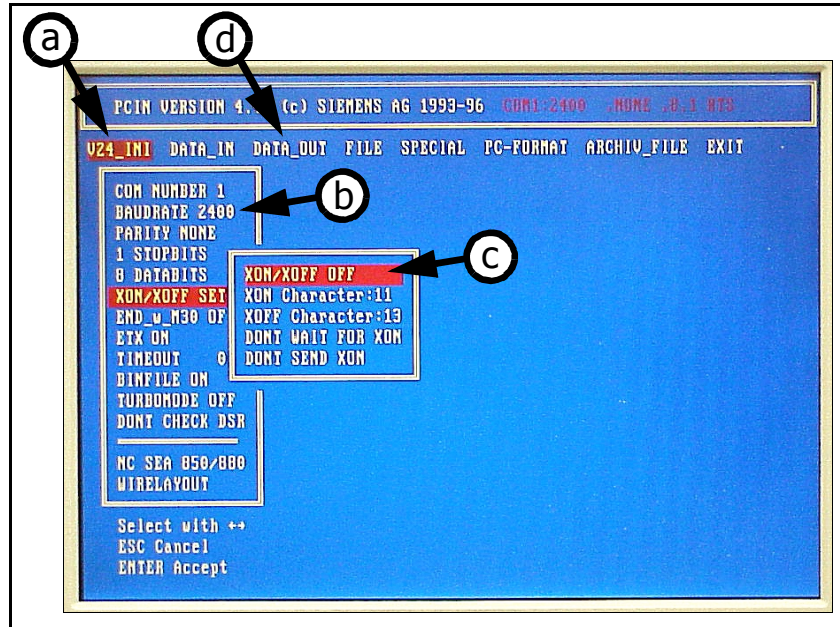

Figure 3 PCIN screen display with the communication parameters box opened.
2. Select **V24_INI** at the top of the screen (See “a” in Figure 3). Press **ENTER**, two times if necessary, to display the communication parameters box.
3. Set **COM** number to “1” or “2” (depending on the **COM** port communications cable connection at the external computer). Navigate to the **COM NUMBER** line using the arrow keys. Use the arrow keys to select the proper **COM** port settings (See “b” in Figure 3).
4. Set XON/XOFF parameter to "OFF." Use the arrow keys to navigate to the *XON/XOFF SET* line. Use the arrow keys to select *ON* of *OFF* setting in the box that displays (See "c" in Figure 3).
8. Select *DATA_OUT* at the top of the screen (See "d" in Figure 3).